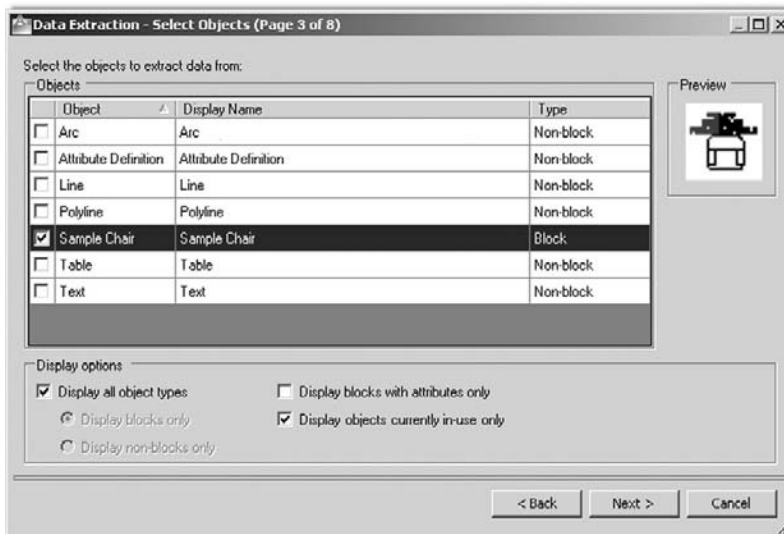

FIGURE 18.13
- Step (Page) 3.** Select Objects (Figure 18.13). Here, we are interested in selecting from what we want to extract the data. In our case, there is only one choice, the sample chair, as it is the only available block (as seen under the type column). You can also click on Display blocks only, under the Display options, to isolate the chair. In either case, select it and press Next >.